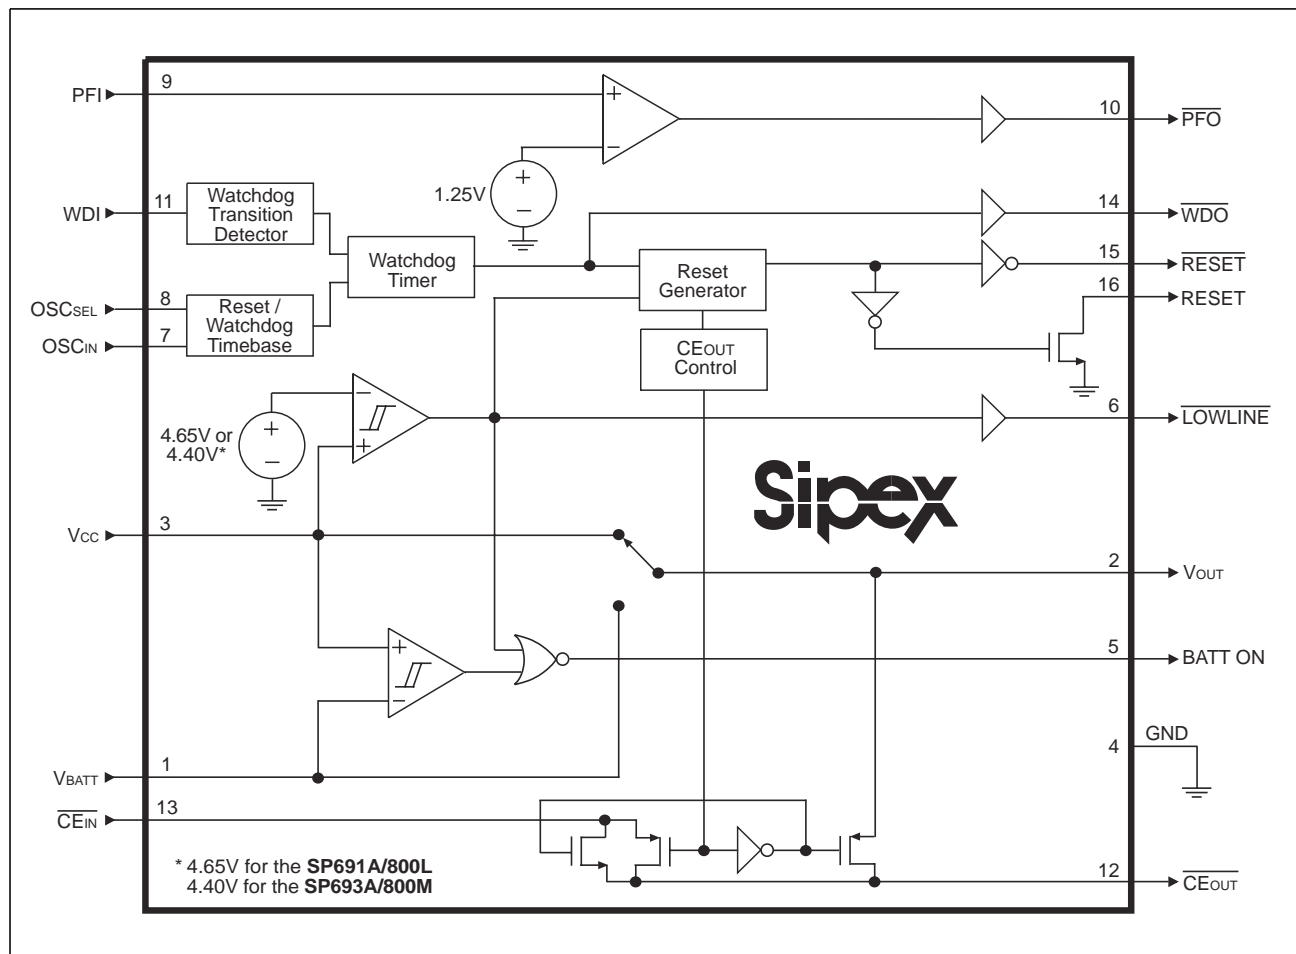

Figure 16. Internal Block Diagram of the SP691A/693A/800L/800M
The **SP691A/693A/800L/800M** devices provide internal gating of chip-enable (CE) signals, to prevent erroneous data from corrupting the CMOS RAM in the event of a power failure. During normal operation, the CE gate is enabled and passes all CE transitions. When reset is asserted, this path becomes disabled, preventing erroneous data from corrupting the CMOS RAM. The **SP691A/693A/800L/800M** devices use a series transmission gate from $\overline{\text{CE}}_{\text{IN}}$ to $\overline{\text{CE}}_{\text{OUT}}$. Refer to *Figure 16*.
LOWLINE is the buffered output pin of the reset threshold comparator. Refer to Figure 16. LOWLINE typically sinks 3.2mA at 0.1V. For normal operation where V_{CC} is above the reset threshold, LOWLINE is pulled to V_{OUT} .